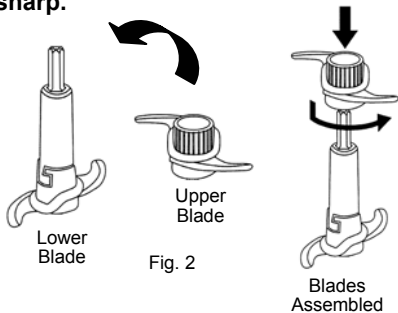

Fig. 2
4. Carefully insert the upper blade over the lower blade rotating it until it locks onto the lower blade. (Fig. 2)